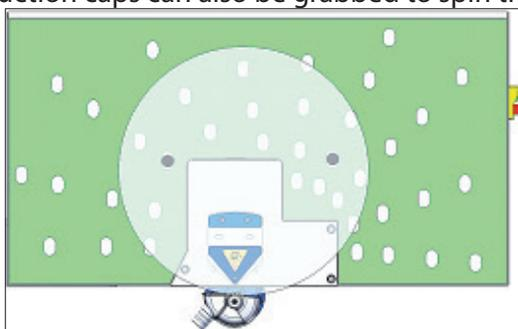
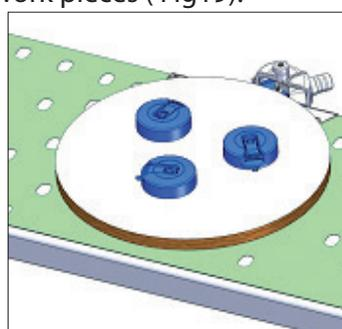

Fig. 18
Fig. 19
- When done installing the power trimmer, adjusting the positions of magnet chips according to the shapes and sizes of work pieces (Fig18). Raising up the work pieces to easily trim the edges and suction cap can be attached onto work pieces. Suction caps can also be grabbed to spin the work pieces (Fig19).